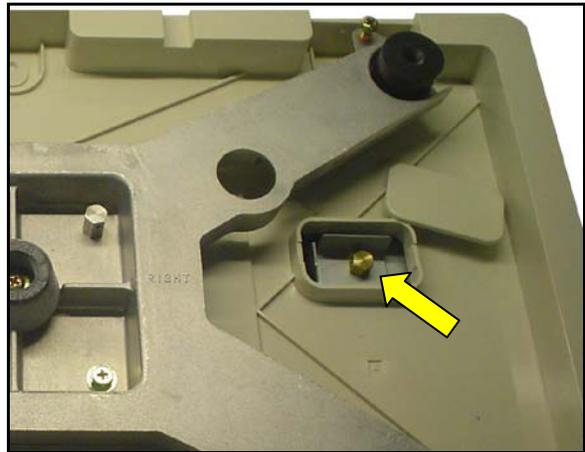

Figure 9.4. Calibration Access
- Remove the small plastic rectangular cover and the seal bolt and metal cover. See Figure 9.4.